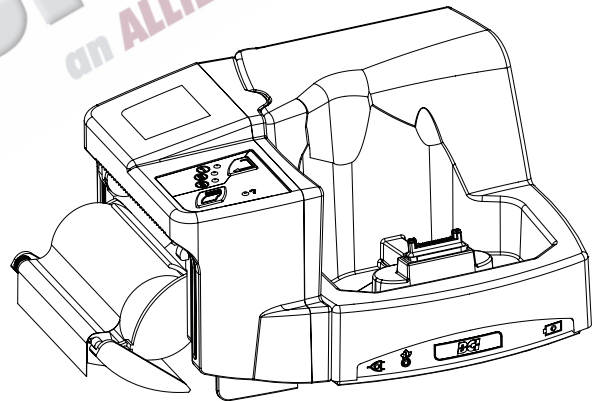

Figure 6-6C: Place Paper Spool in Holder
4. Place paper spool in holder so that the paper exits over the top of the roll and drapes over the rubber roller as shown in figure 6-6C.